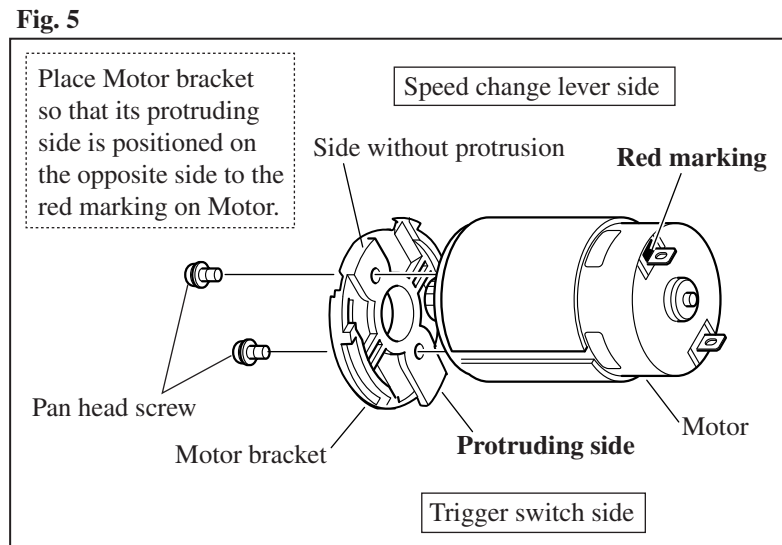

Fig. 6
- 2) Aligning the protrusions on Motor bracket with the grooves in Gear assembly, assemble Motor to Gear assembly. (**Fig. 6**)